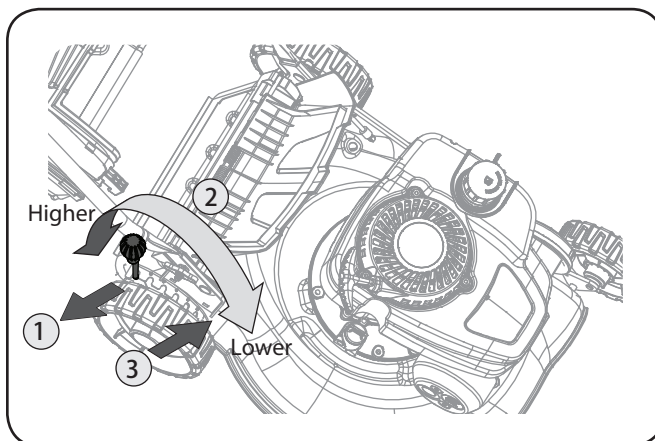

Figure 3-9
2. Move lever to desired position for a change in cutting height. See Figure 3-9.